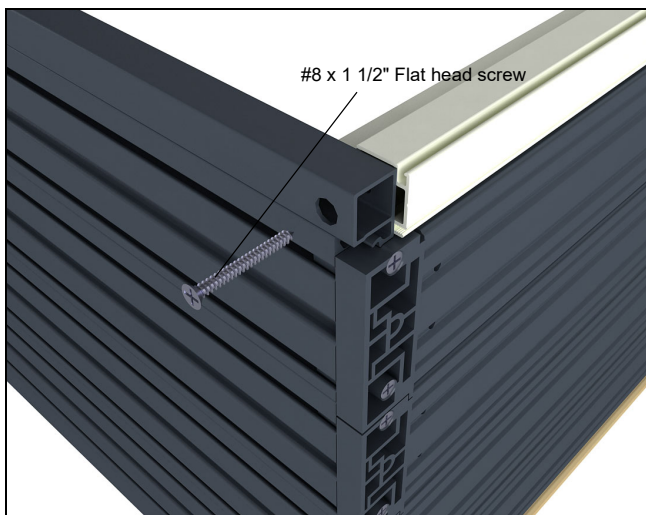

Figure 34
- Fasten sill liner to frame cladding using #8 x 1 1/2" flat head screws. See figure 34. *Note: Ensure hole is lined up with screw boss in frame cladding.*